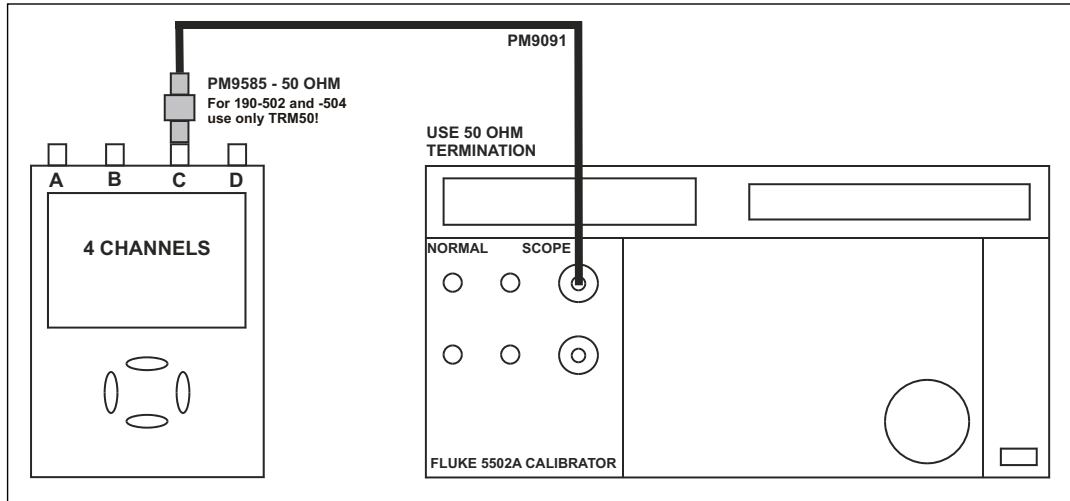

Figure 5-13. 5502A SCOPE Output to Test Tool Input C
2. Connect the Test Tool to the 5502A as shown in Figure 5-13.